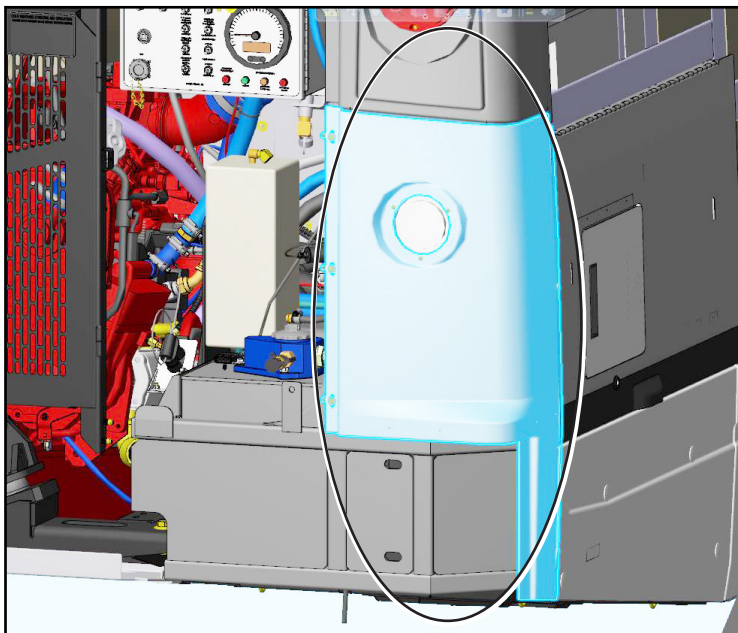

Figure 4 - Remove Rear Right Corner
- 1.3. Remove the rear right corner. See Figure 4.
- 1.4. If applicable, remove the 2 bolts that hold the vertical surge tank and move forward to create more room. Retain hardware. See Figures 4 and 5.
- 1.21. Install rear right corner panel. Refer to Figure 4. If needed, white nylon rivet is part N45830, replacement black cable ties are G5007996 and blue ones are N56339.